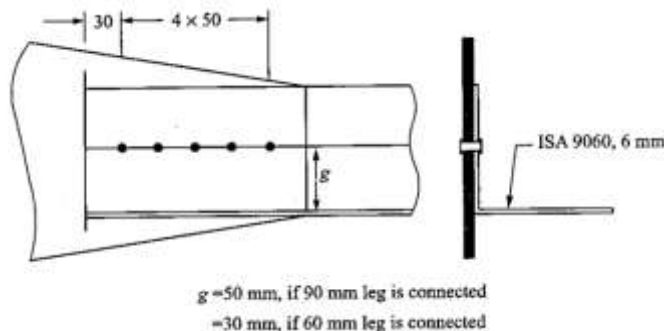

Fig. 13a
13. (a) A single unequal angle ISA 90 x 60 x 6 mm is connected to 10 mm thick gusset plate at the ends with 5 No.s of 16 mm dia bolts to transfer tension. Determine the design tensile strength of the angle if gusset is connected to 90 mm leg as shown in Fig. 13a. (13)